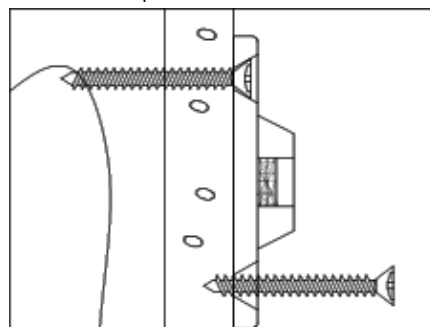
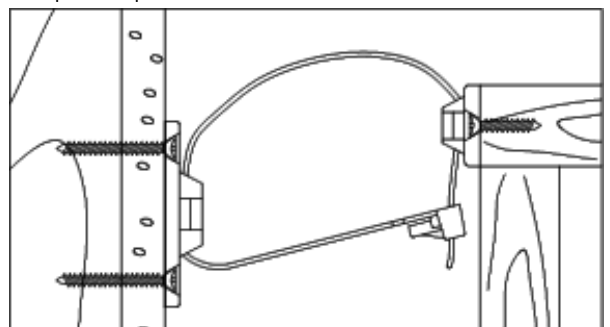

Figure 2
Figure 3
- 3) **MOUNTING THE WALL-SIDE MOUNTING PLATE :** Position the wall-side mounting plate along the selected stud mark so that it will be adjacent the furniture-side mounting plate when the furniture item is moved to its final position. The wall-side mounting plate should be about ONE inch lower than the furniture-side mounting plate (See Figure 3). Use the TWO Long screws to secure the wall-side mounting plate to the wall. Remember to position the wall-side mounting plate vertically so that both screws will engage the selected wall stud (See Figure 2).